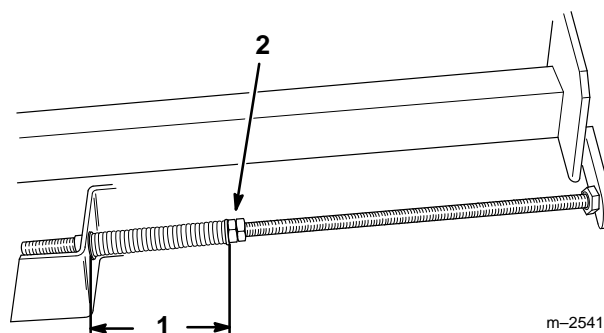

Figure 27
1. Belt Guide (2)
6. Tighten the jam nuts on the adjusting shafts until the springs are compressed to a length of 5" (12.7 cm) (Fig 27).